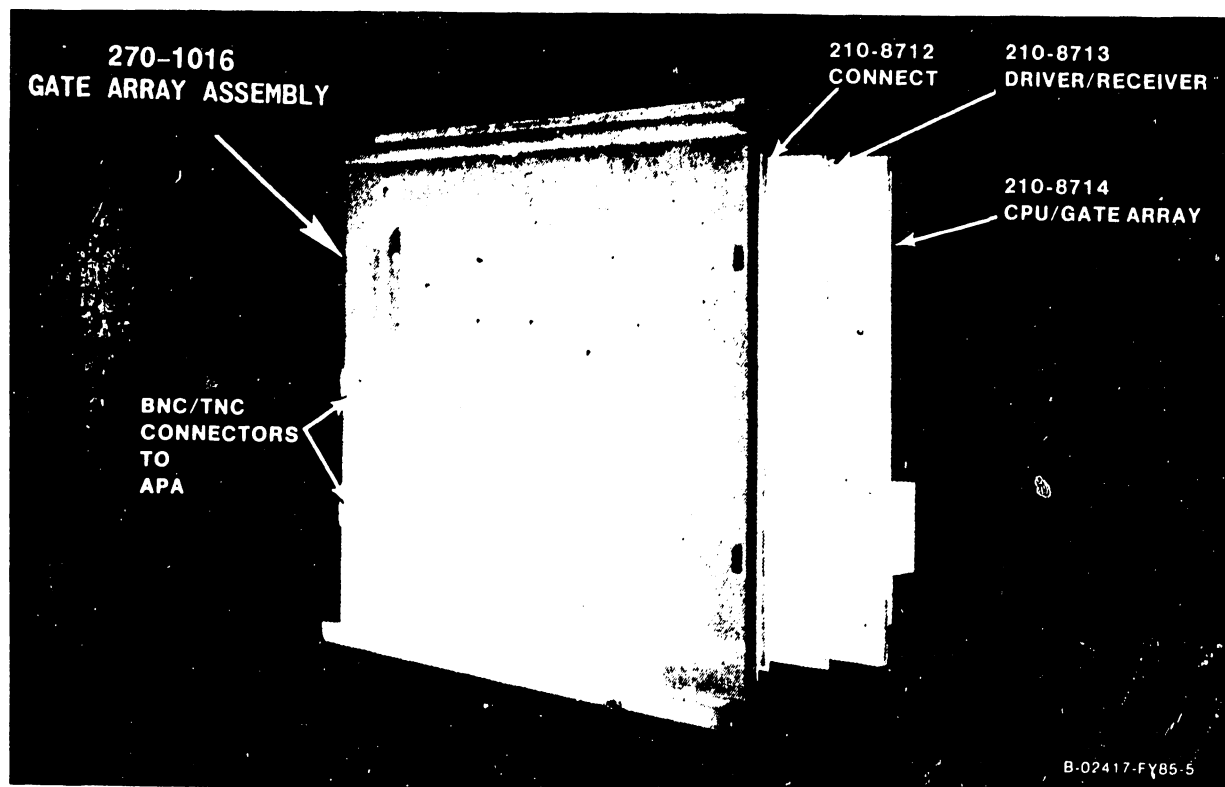

Figure 7-27. 6550 Gate Array TC Panel Assembly
2. Disconnect the coaxial cable from the BNC/TNC connectors, and the modem cables from the TC connectors of the GATC panel assembly. (Figure 7-27).